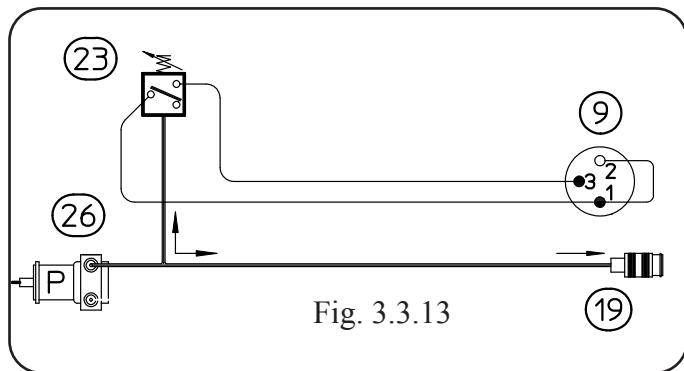

Fig. 3.3.13
Upon power source start-up, the panel board (47) checks whether the cooling unit is connected, by means of the signal provided by the jumper on terminals 1 - 2 of the connector (9) on cooling unit (Fig. 3.3.13).
- Fans (2) terminals, on cooling unit, voltage = 220 Vac, with cooling unit enabled.
- With power source off, temporarily disconnect the wires from the fans terminal board and check the resistance between the terminals of fans (2) (fans (2) winding resistance). Correct value = approximately 750 ohm.
## PRESSURE SWITCH (23) TEST (Fig. 3.3.13 and Connectors map, par. 5.6).
- Power board (56), connector J5, terminals 1(+) - 4(-) = 0 Vdc, with pump (26) running (pressure switch contact closed = suitable pressure); +24 Vdc, approx. with power source on and pump (26) stopped (pressure switch contact open = pressure low).